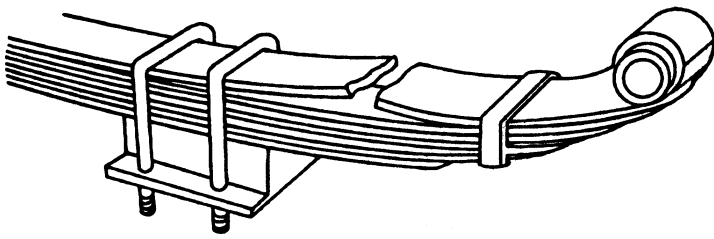

Figure 2-3
- ✓ Missing or broken leaves in any leaf spring. If any leaf or portion of any leaf in any spring assembly is missing or separated, it will put the vehicle “out of service” but any defect could be dangerous (Figure 2-3).